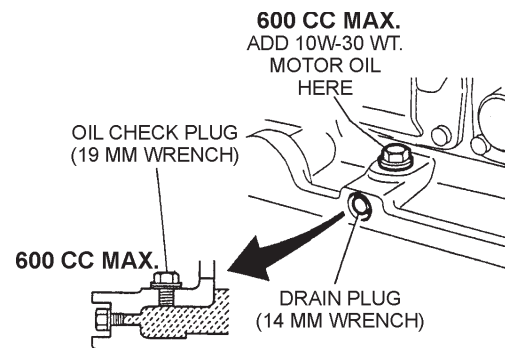

Figure 31. Vibrator Oil Drain and Check Plugs
- In every 100 hours of operation, with the machine positioned horizontally, use a 3/4" (19 mm) wrench and remove vibrator oil level check plug (Figure 31). Visually inspect and see if vibrator oil level is up to filler port. Be sure to clean area around check hole to prevent dirt and dust from entering.
- Using a 14 mm wrench remove the vibrator oil drain plug (Figure 31) from the vibrating plate assembly.
- After vibrator oil has been completely drained from machine, fill with 10W-30 motor oil to the appropriate safe operating level (Figure 31).